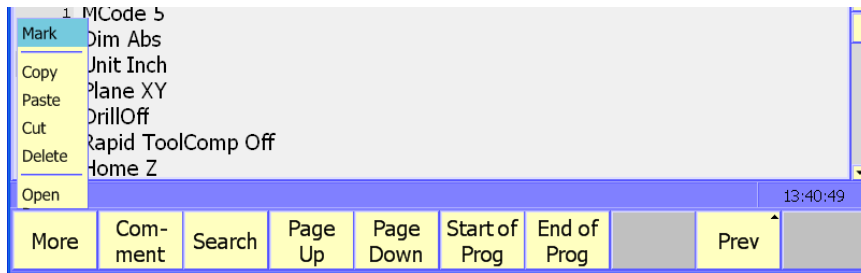

Figure 5-9, Misc (F9)>More (F1) Pop-up Menu
In conversational editor, use the **Misc (F9)>More (F1)** soft key to display the More pop-up menu. See **Table 5-1** for a description of the features. See **Figure 5-9**. To display the More pop-up menu:
2. Press **F1 (More)** to display the More pop-up menu. Refer to Figure 5-9, Misc \(F9\)>More \(F1\) Pop-up Menu.